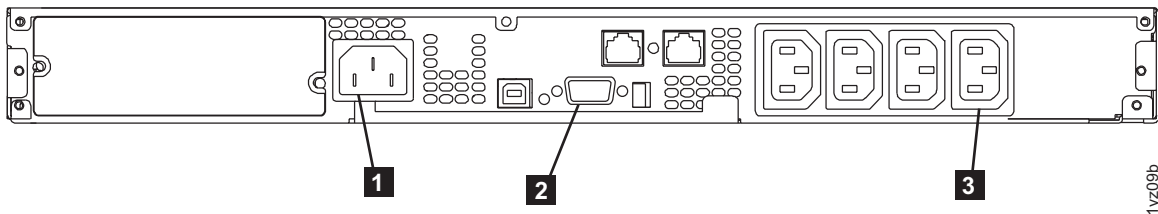

Figure 320. 2145 UPS-1U (rear view)
9. At the back of the 2145 UPS-1U, connect the SAN Volume Controller power cable to load segment 2 receptacle ( **3** in Figure 320 on page 313). If applicable, install the power cable-retention bracket (shown in Figure 319 on page 313).
10. Reconnect the SAN Volume Controller signal cable to the communication port ( **2** in Figure 320).
11. Reconnect the 2145 UPS-1U main power cable, from either the power distribution unit or from the redundant ac-power switch, into the input connector ( **1** in Figure 320).
The 2145 UPS-1U is now in standby mode with the SAN Volume Controller offline. All indicators that are shown in Figure 320 are off.